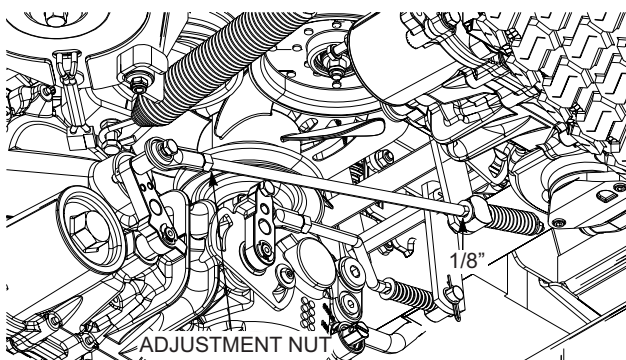

Figure 6-1. Brake Adjustment
2. With the brake in the engaged position, check the distance between the notch on the brake actuator rod and pivot bushing on the LH side of the machine. The distance should be 1/8". See Figure 6-1.
3. If the distance is not at the specified measurement, turn the adjustment nut on the brake actuator rod until the 1/8" measurement is achieved. See Figure 6-1.